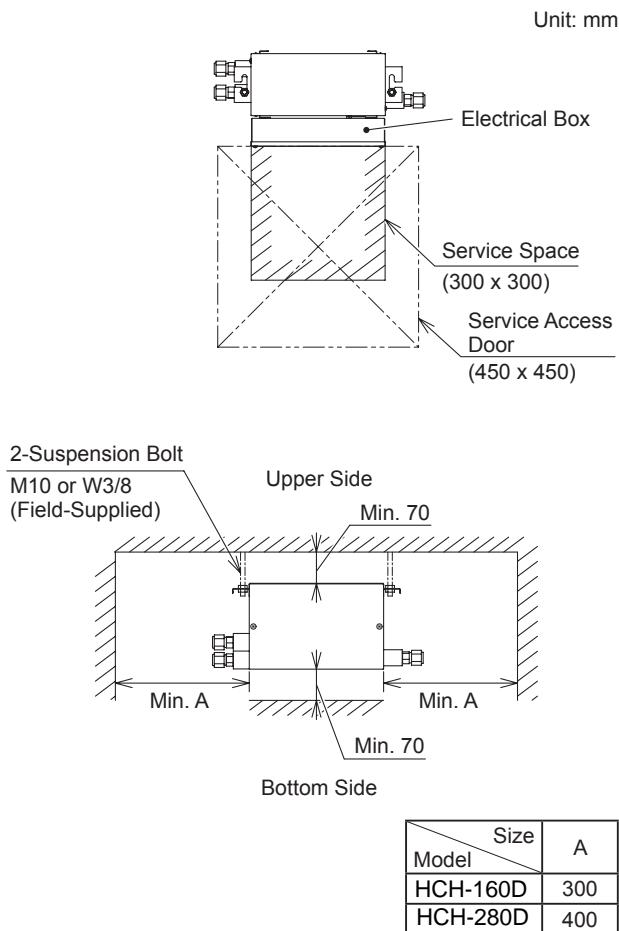

Fig. 4.1 Maintenance Space
- Install the Switch Box with a proper clearance around it for maintenance working space, as shown in Fig. 4.1.